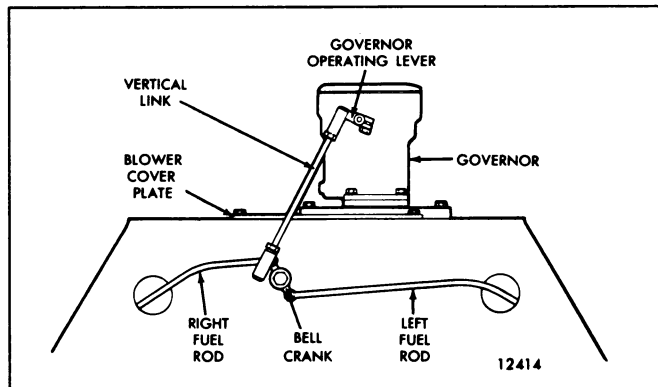

Fig. 3 - Governor Operating Linkage (Former)
On former engines, the fuel rods are connected to a bell crank attached to the front end of the cylinder block. The governor is connected to the bell crank by a vertical linkage attached to the governor operating lever (Fig. 3).
4. Disconnect the vertical link from the bell crank (Fig. 3).